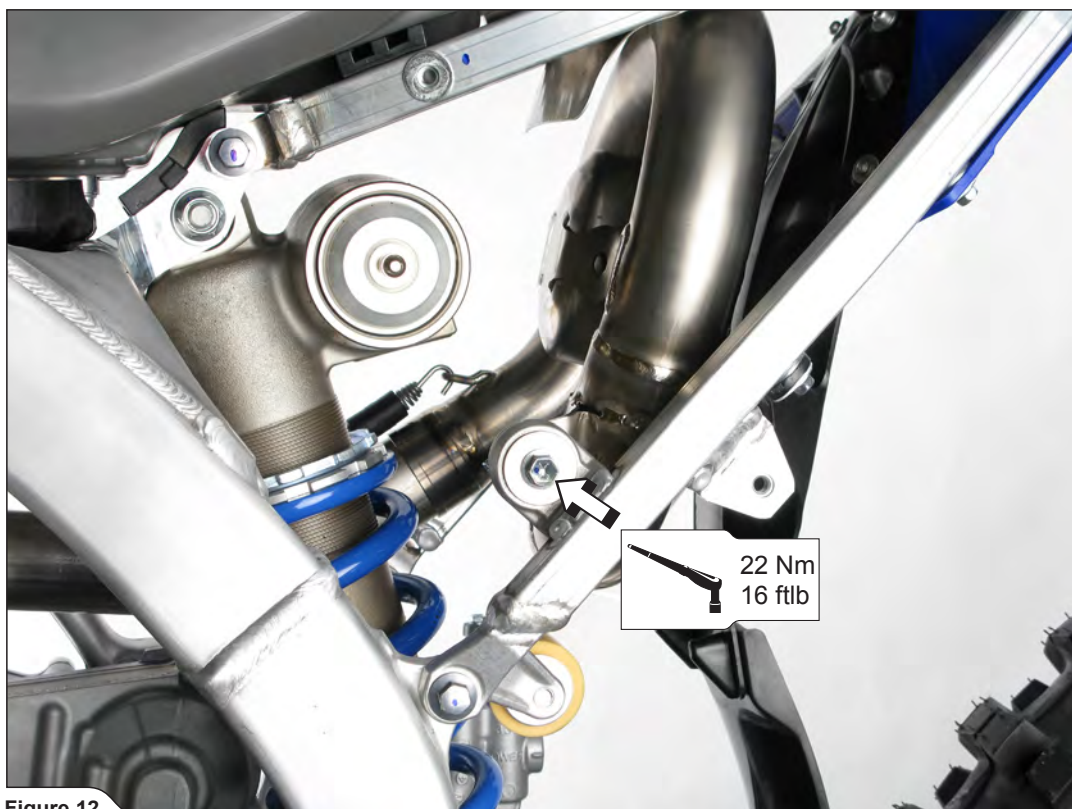

Figure 12
4. Screw the link-pipes' bracket to a specified torque, using stock bolt (Figure 12).